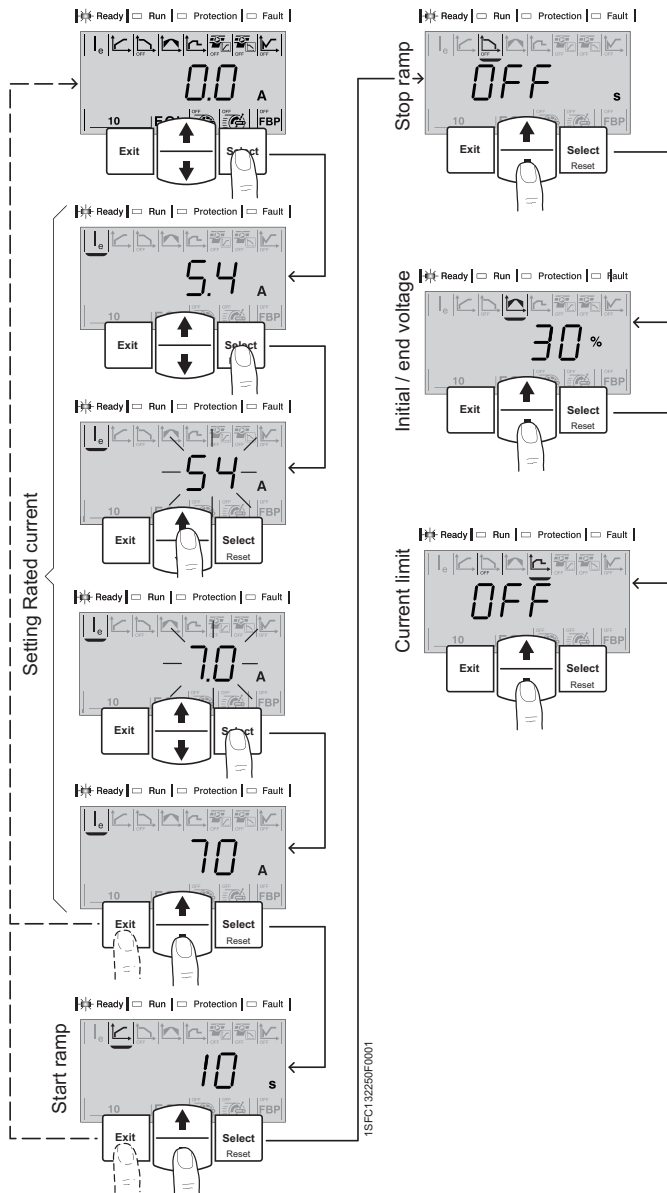

Figure 7.2: Basic configuration of frequently used parameters
2. From Information Level, enter Settings Level by pressing Select key. See figure 7.2.